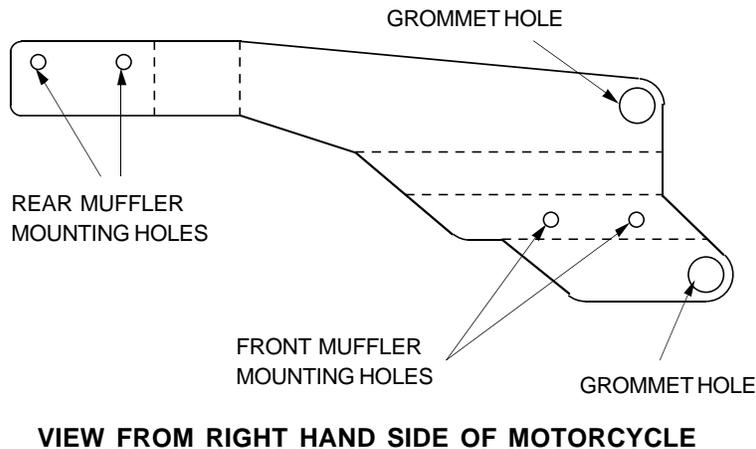

FIGURE 2
5. Slide one dog bone shaped nut plate under the bracket that is welded to the back side of the muffler. Attach the muffler to the mounting bracket using two 5/16" flanged head bolts (supplied). Leave them loose at this time. Refer to figure 2. Go back and attach the exhaust flange to the cylinder head studs using the stock nuts, leave them loose at this time.